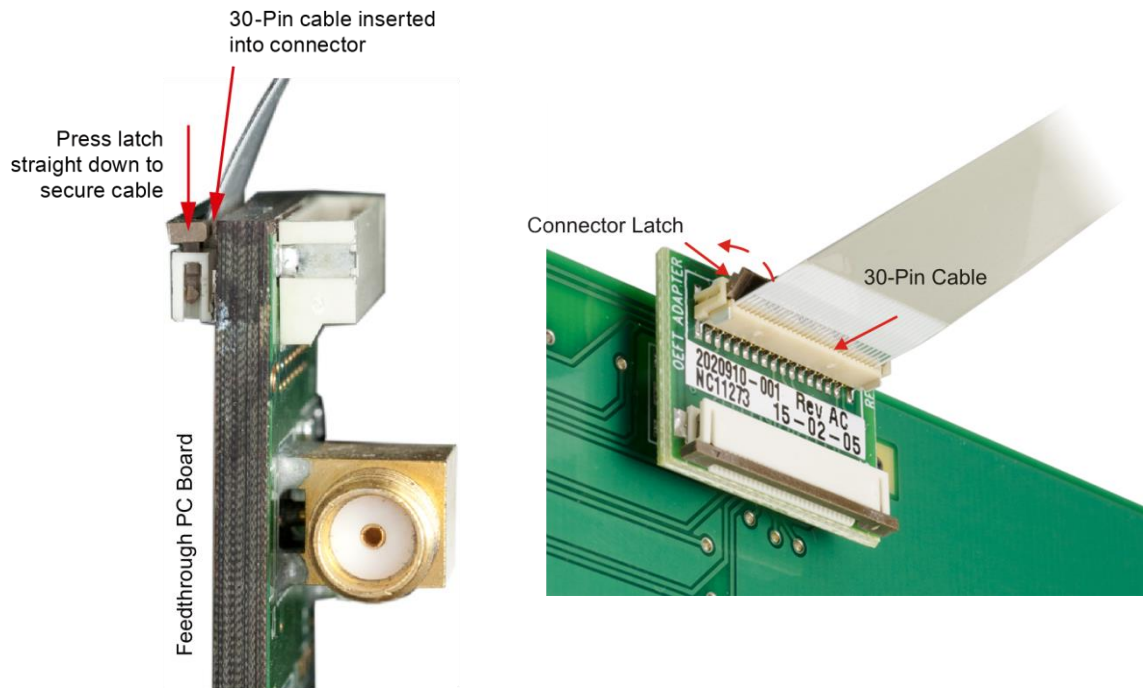

Figure 28. Installing the 30-Pin Cable
2. Plug the OEFT adapter onto the Legacy Adapter Board. (See Figure 28.)
5. Insert the other end of the 30-pin cable into the top connector of the OEFT adapter as shown below. Rotate the connector latch upward (See curved red line in Figure 28) to secure the cable.